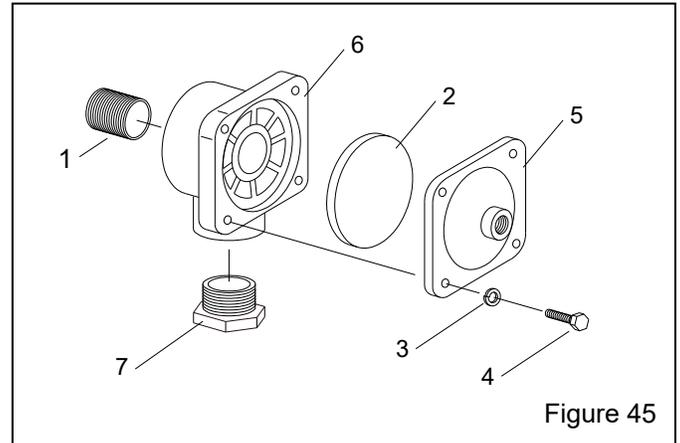

Figure 45
**9.5 1" Diaphragm Outlet Valve – Figure 45**